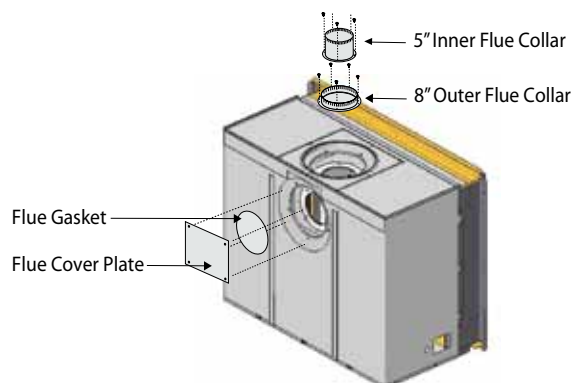

**Figure 8.** Flue cover and collar installation, Rear Vented fireplace.
included hardware, as illustrated **Figure 8.**
3. Install the (removed) Rear flue cover and gasket material, to the Top vent outlet. Fasten the cover with included hardware, as illustrated **Figure 8.**